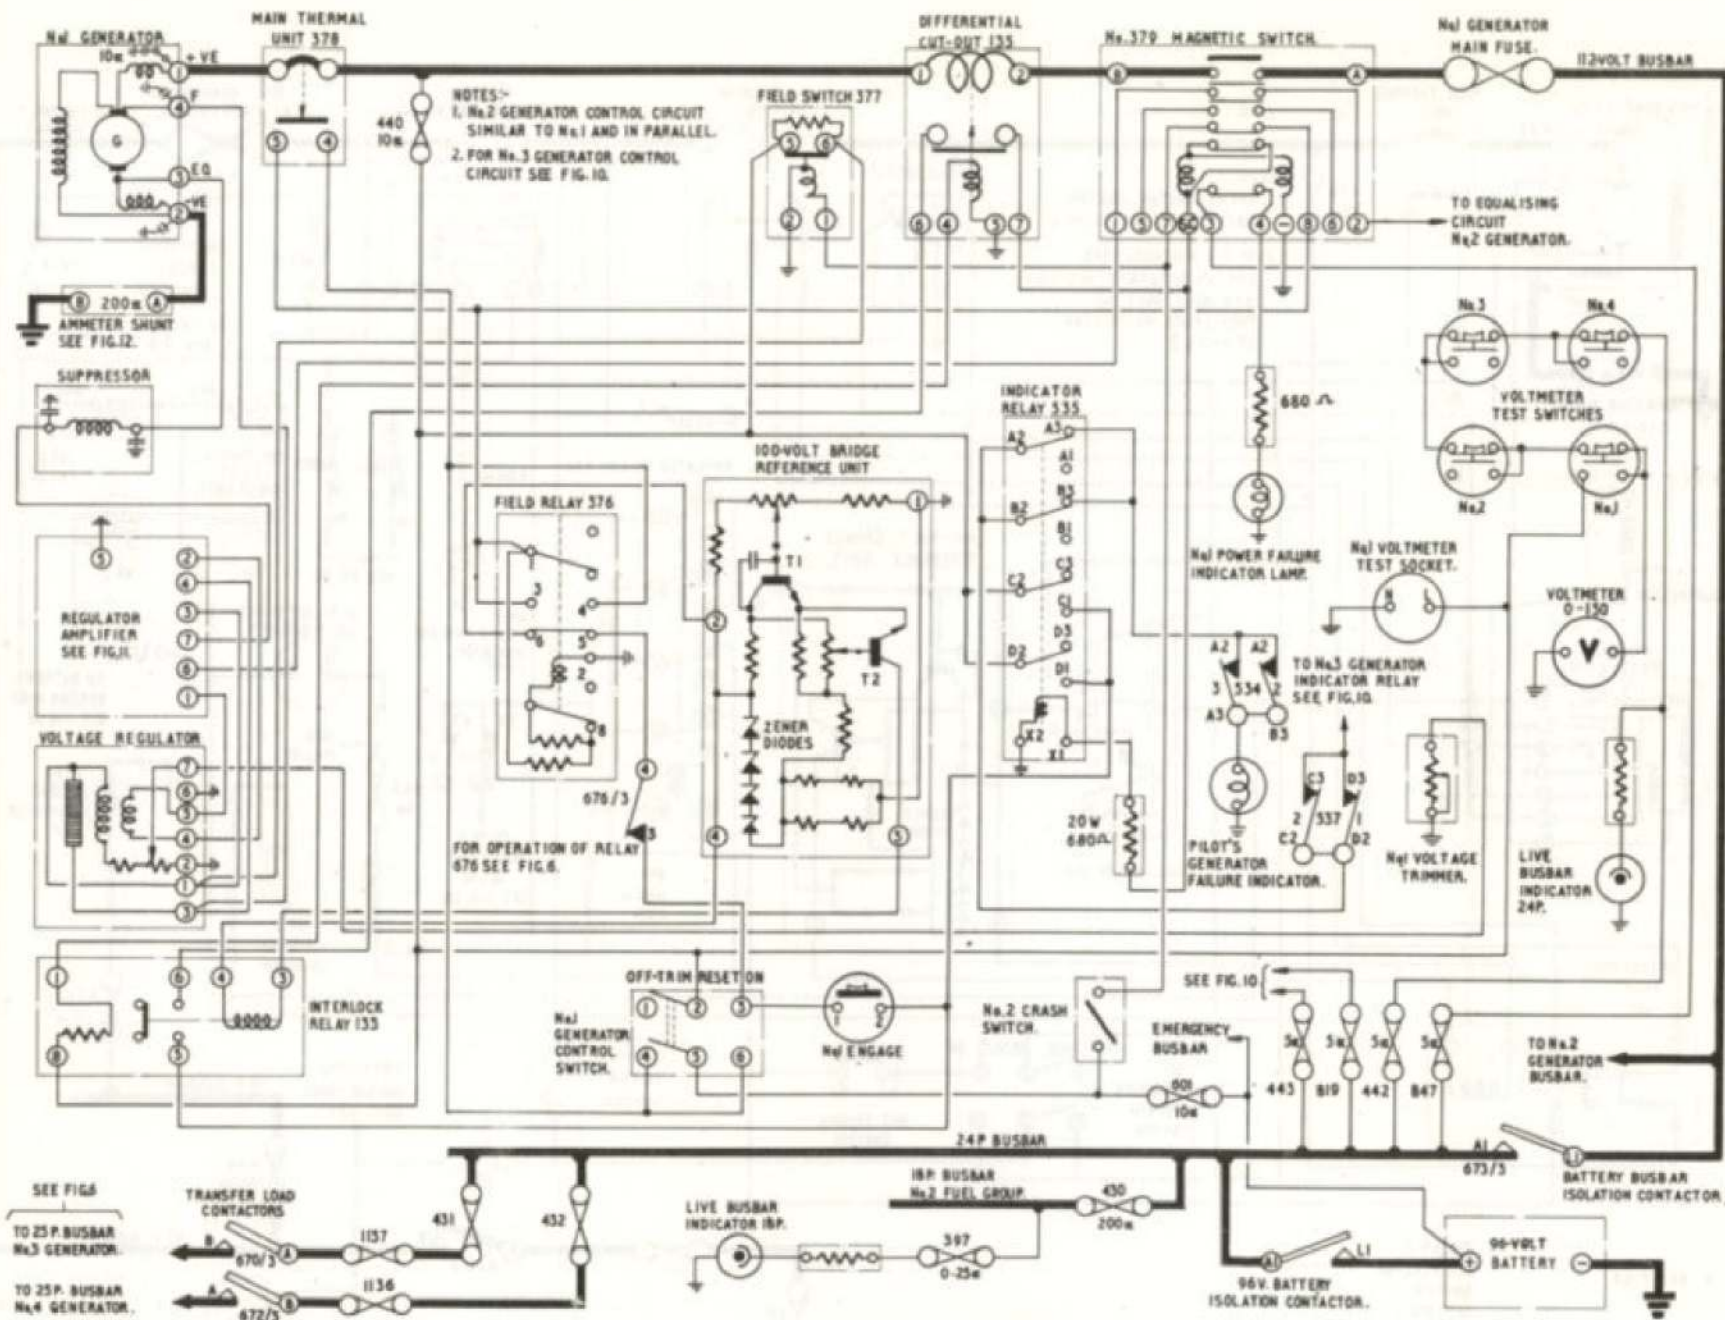

Fig. 9 No. 1 generator control circuit - post Mod. 874
- (1) The normal interlock relay is replaced by an interlock relay of a special pattern, in that it has a built-in resistor and,
- (2) A 100-volt reference unit is used in place of the voltage pick-up relay.
58. Referring to fig.9, it will be seen that the No.1 generator output is connected to the busbar, via the main contacts of the
79. The operation of the protection system for the No.1 generator, post Mod. 874, is similar to that already described for the No.1 generator, pre Mod.874. In the event of No.1 generator, post Mod.874 (fig.9), becoming overloaded, causing operation of the main thermal unit, a supply from the 96-volt battery emergency busbar will be made via fuse 601, contacts 5-6 of the No.1 generator control switch, and contacts 4-5 of the main thermal unit, to energise the field relay 376. A hold-in circuit is then completed, across the now closed contacts 3-4 of the field relay, and contacts 5-6 will be opened, to break the supply to the coil of the interlock relay 133. This relay will then be de-energised, and its contacts 5-6 will open to break the hold-in circuit to the magnetic switch 379, and the indicator relay 535. As a result of this action, the magnetic switch will be de-energised to (a) bring the generator off the busbar, (b) break the equalising circuit and (c) light the No.1 power failure warning lamp, from fuse 847. Note that part of the circuit, to the pilot's generator failure indicator lamp, will be completed, across